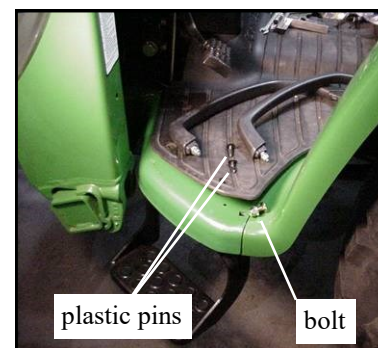

Fig. 1.1 Remove grab handle, bolt, and two plastic pins/side
- 1.1 Remove both grab handles (one per side) (see fig. 1.1).
- 1.2 Remove, and discard the outer bolt and nut in each floorboard (see fig. 1.1).
- 1.3 Remove, and **save** two (2) plastic pins (per side) holding the floor mat down (see fig. 1.1).